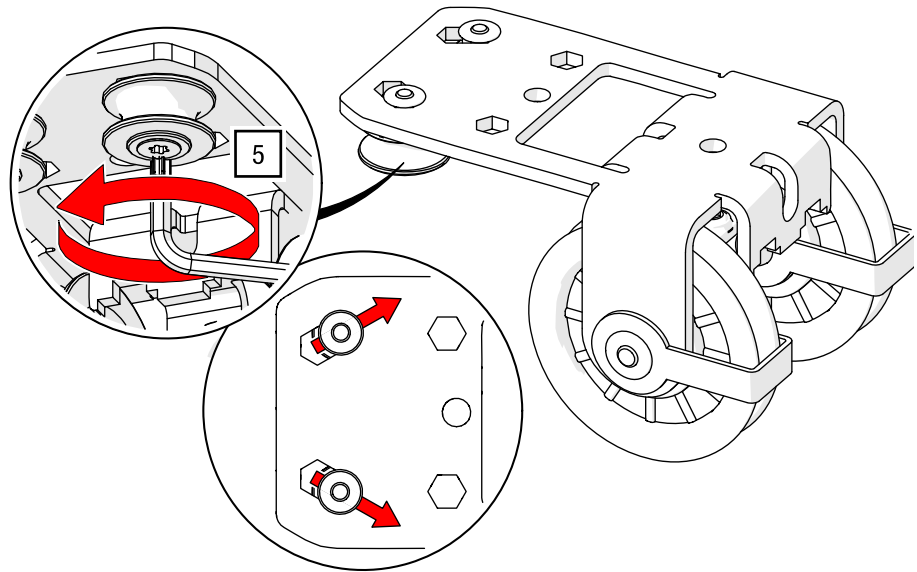

Fig. 77: Side cord operation – Pre-assemble head pulley for side cord operation
5. Use a TORX®-key T30 (see Fig. 77) to position the cord guides on the head pulley in the positions shown.